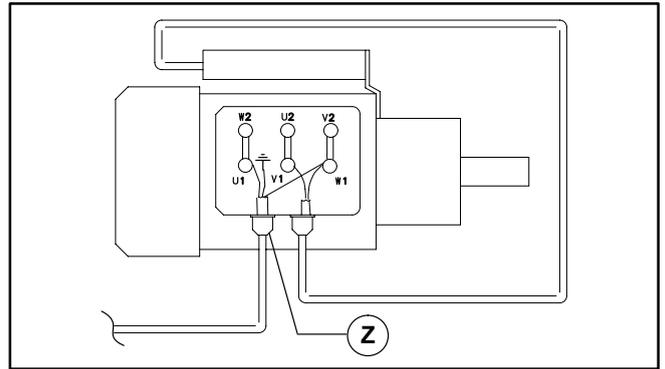

Figure 16
- Record wire colors on terminals U1, W1 and ground (\perp) (Figure 16). Loosen terminals U1, W1 and ground and remove wires.
- Loosen cord grip (Z of Figure 16) and remove cord.